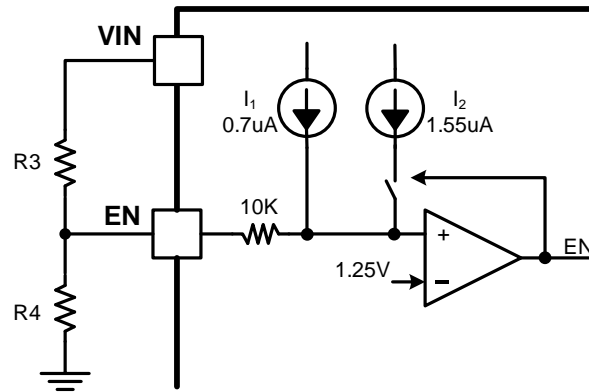

Figure 8. Adjustable VIN UVLO
An internal 0.7uA pull up current source connected from internal LDO power rail to EN pin guarantees that floating EN pin automatically enables the device. For the application requiring higher VIN UVLO voltage than the default setup, there is a 1.55uA hysteresis pull up current source on EN pin which configures the VIN UVLO voltage with an off-chip resistor divider R3 and R4, shown in Figure 8. The resistor divider R3 and R4 are calculated by Equation (1) and (2).